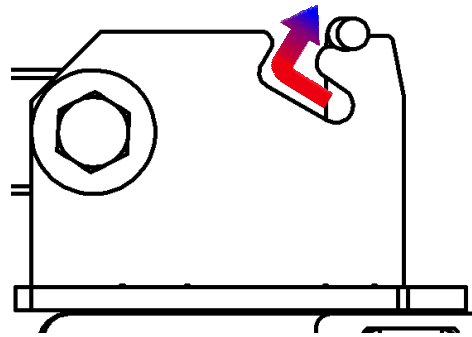

FIGURE 18.4
- Next, remove the 1/2" Pin ① by guiding handle of Pin through the slot. The Pin only needs to come out enough to rest on the notch as shown. **Figure 18.4**